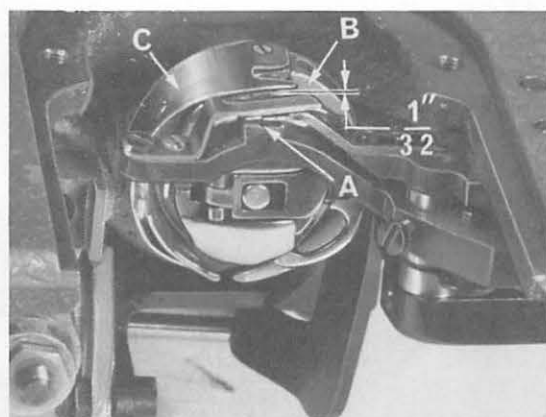

Fig. 12A
Place the projection (A, Fig. 12A, Page 10) on the positioning finger into the bobbin case holder recess (B) and tighten the finger and knife assembly attaching screws securely, allowing 1/32 inch clearance between the outside edge of projection and the inside edge of bobbin case recess (Fig. 12A).
- (a) Rotate handwheel in operating direction until the needle clearance cut in the deflector plate (C, Fig. 12A, Page 10) on the rotating hook assembly is in line with the needle on the up stroke of the needle bar.